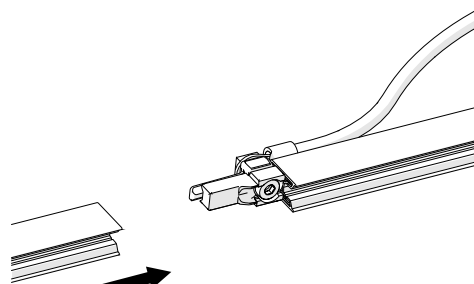

Fig. 110: Slide the rail section into the free end of the section line feed as far as the stopper
- Slide the next rail section into the free end of the section line feed as far as the stopper (see Fig. 110).